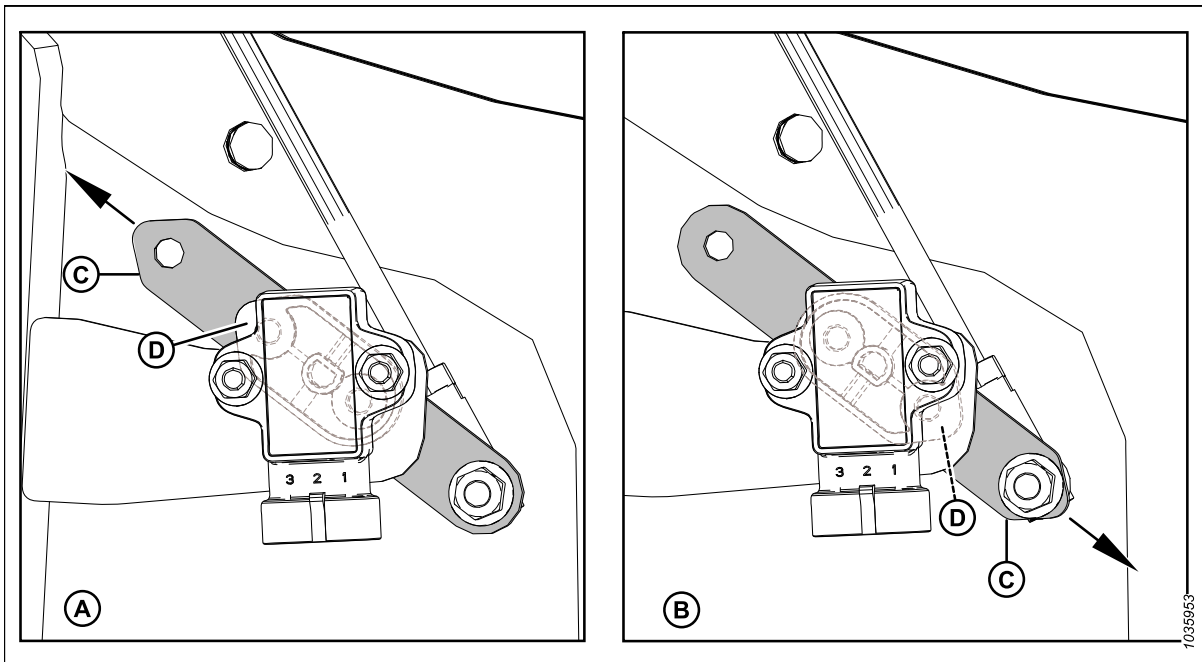

Figure 3.188: Sensor Arm/Pointer Configurations
4. Ensure that sensor arm (C) and pointer (D) are configured properly for the header. For instructions, refer to Figure 3.188, page 164.